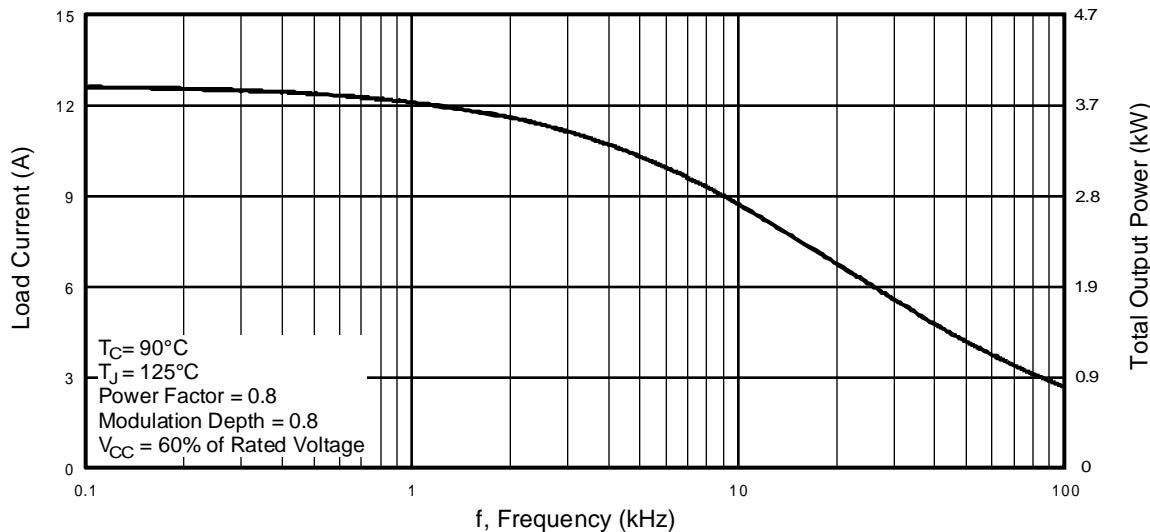

Fig. 1 - RMS Current and Output Power, Synthesized Sine Wave
- See Fig. 1 for Current vs. Frequency curve
Power Factor 0.8, Modulation Depth 80% (See Figure 1)